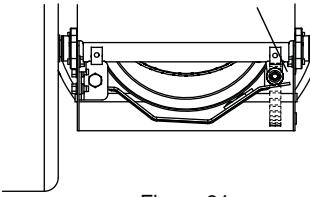

Figure 31
(Figure 31 and 32)
2. With the attachment clutch lever engaged, check the clearance between the frame and plastic roller on the lower end of the attachment idler arm (Figure 31).